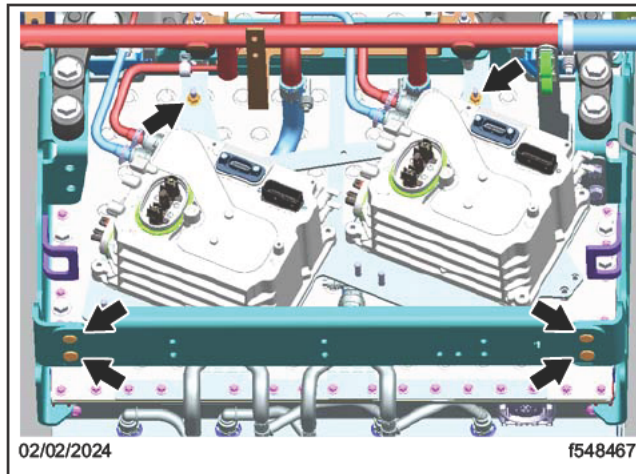

Fig. 2, DC Box Mounting Bracket Fasteners
15. Remove the DC box mounting bracket fasteners. See Fig. 2.
44. Install the DC boxes and bracket on the vehicle. See Fig. 2.